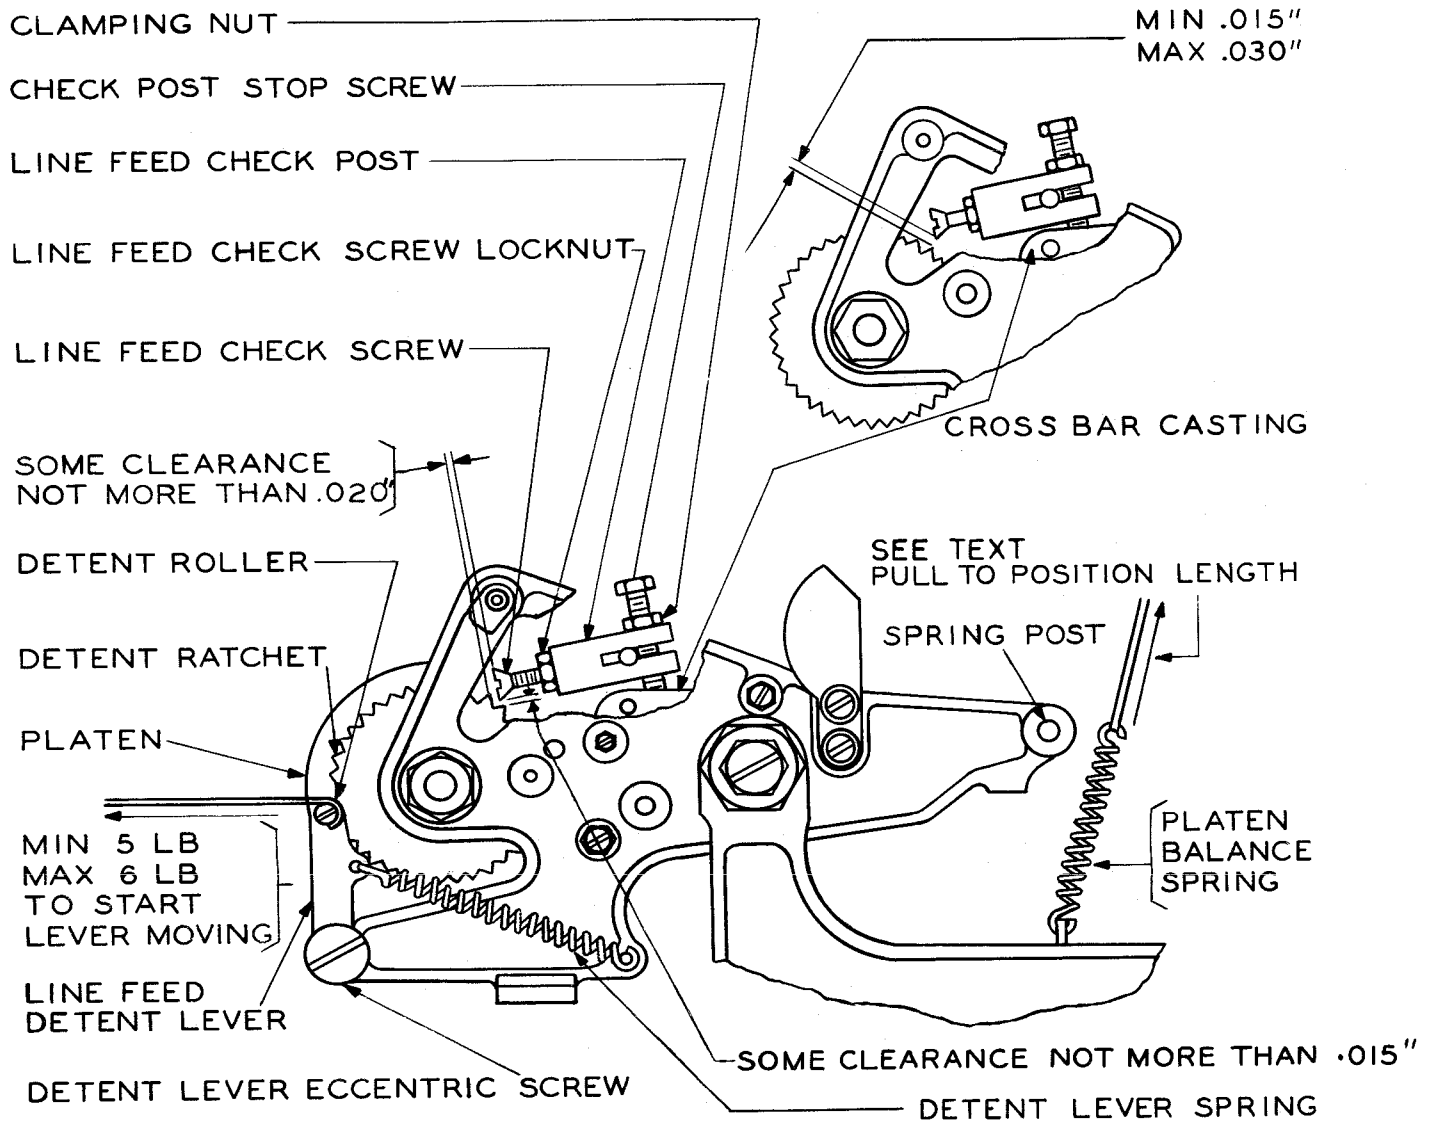

Figure 34
2.60 Platen-balance-spring tension, measured when the platen is in the LTRS position, should be: (See Figure 34.)
To Adjust: Reposition the line-feed detent lever eccentric-screw to rotate the platen by means of the detent lever, keeping the eccentric head of the screw to the rear of the screw body. Check the adjustment on four ratchet teeth located 90 degrees apart. See Figure 34.
2. 71 Line-feed Detent-lever Spring should have a tension of minimum 5 pounds, maximum 6 pounds. See Figure 34.
2. 73 Line-feed Check-screw Head (for 33-tooth ratchet — Bell System) should enter the 12th notch ahead of the one in which the detent roller rests or 14th notch for 37-tooth ratchet — non-Bell System and the top of the screw head should clear the face of the tooth by not more than 0.020 inch when the check screw is held in the bottom of the notch. Check the adjustment on at least four ratchet teeth located 90 degrees apart. See Figure 34.
2.74 Line-feed Check-screw should clear the detent-ratchet teeth by minimum 0.015 inch, maximum 0.030 inch when the line-feed check-stop post is resting on the cross-bar casting. Check the adjustment on four ratchet teeth located 90 degrees apart. See Figure 34.
2.75 Line-feed Check-screw should clear the bottom of each notch on the detent ratchet by not more than 0.015 inch when (1) the Line-Feed combination is set up, (2) the mainshaft is rotated until the line-feed pawl has reached the end of its travel in feeding platen, (3) the line-feed check-lever is against the line-feed pawl lever, and (4) the play of check-lever shaft's right bearing is taken up to make this clearance a maximum. See Figures 34 and 35.